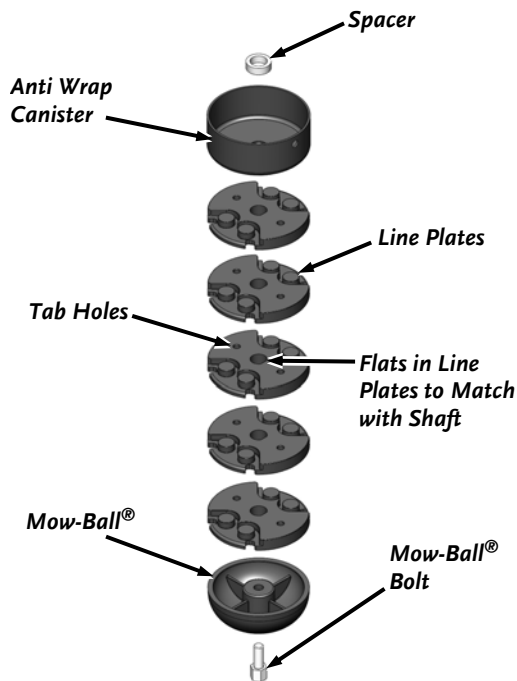

Figure 24
5. Slide the Line Plates, Anti Wrap Canister and Spacer off the Shaft (**Figure 24**).
Improper installation can cause damage to the trimmer bearings. Follow these directions carefully to protect your machine from damage. Reassemble the components in the order shown in **figure 24**.
1. Place the Spacer and Anti Wrap Canister (with the lip facing up) onto the Shaft (**Figure 24**).